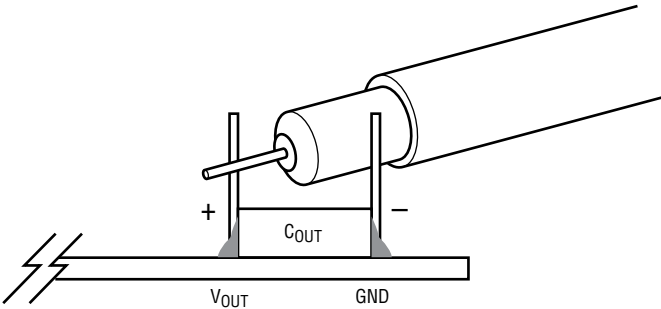

Figure 2. How to Measure the Output or Input Voltage Ripple
1. When measuring the output voltage or input voltage ripple do not use the long ground lead on the oscilloscope probe. See Figure 2 for the proper scope probe technique. Short, stiff leads need to be soldered to the (+) and (–) terminals of the output or input capacitor. The probe's ground ring needs to contact the (–) lead and the probe tip needs to contact the (+) lead.